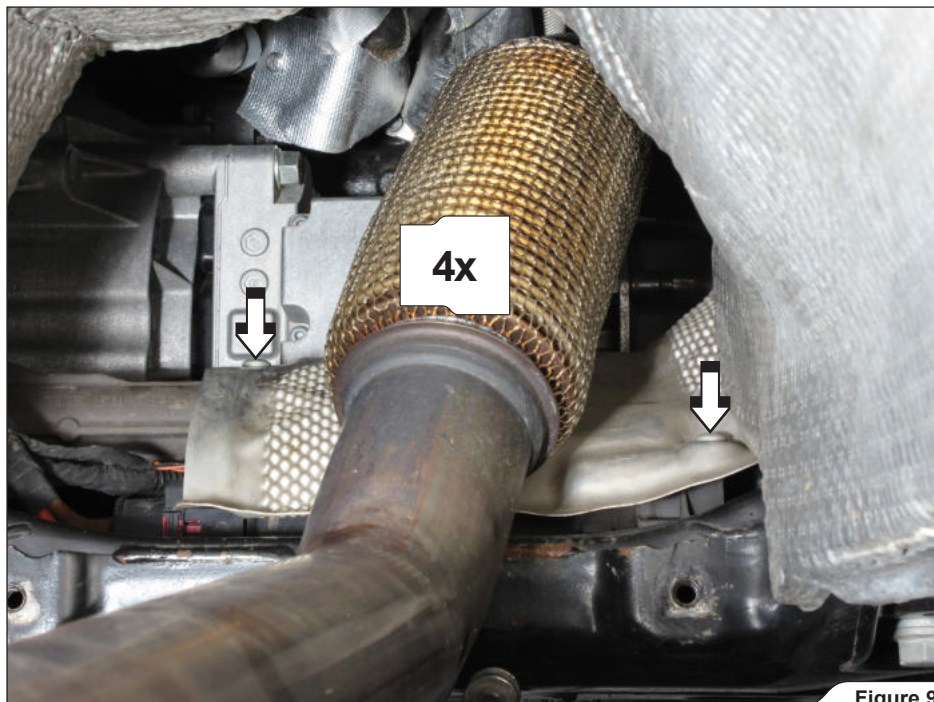

Figure 9
9. Unscrew the four heat protection's bolts, carefully remove the heat protection and the down pipe off the vehicle (**Figure 9**).